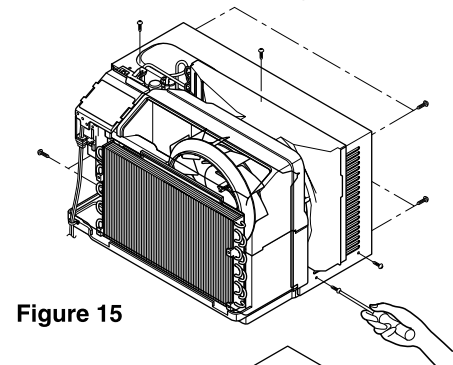

Figure 15
3. Remove 10 screws that secure the cabinet to the base pan and condenser. (See Figure 15)